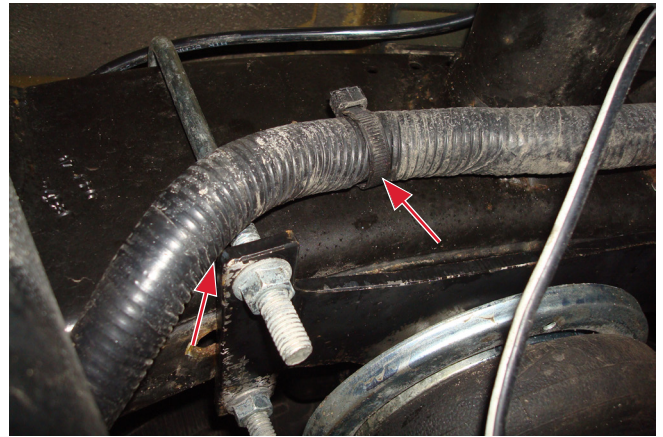

Fig. 10
- On some models, it may be necessary to move the wiring harness inside of the passenger's (right) side frame, forward of the axle, away from the corner of the upper bracket (Fig. 10). Pull the Christmas tree hanger away from the frame and the bracket and then zip tie the harness to the crossmember above the axle.
Fig. 10 shows an acceptable installation. No further modification is needed unless interference is more direct.